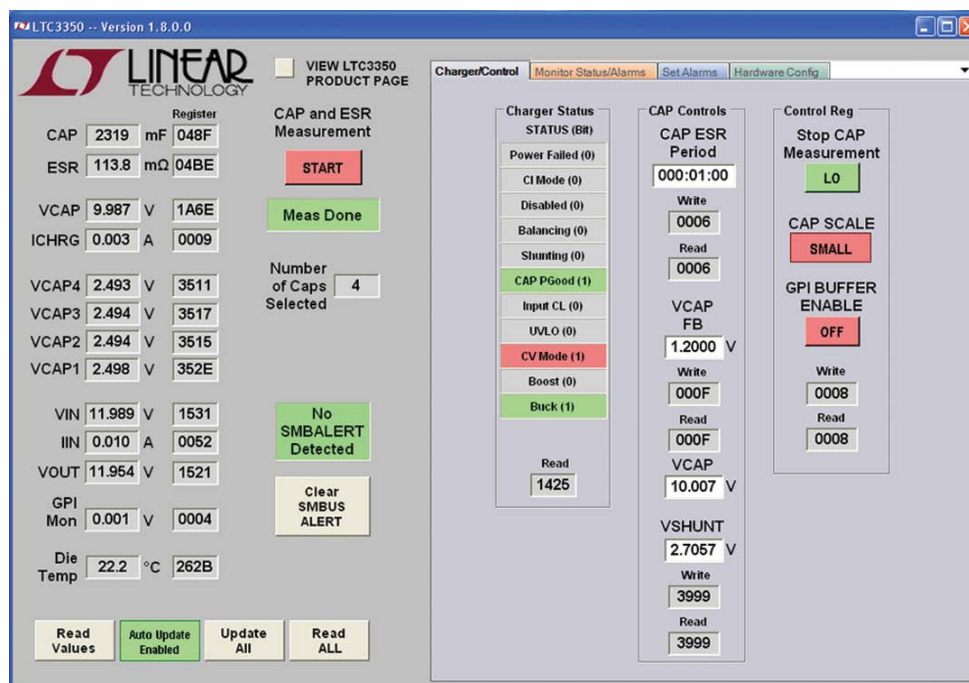

Figure 5. LTC3350 Control Window
6. Start the Linear Technology QuikEval program. This program should automatically detect the presence of the LTC3350 demo board (DC1937B) and activate the appropriate GUI, as seen in Figure 5.
The LTC3350 program provides the ability to measure and monitor the system voltages and currents plus the health of the supercapacitors. It also allows the user to set up alarms to report on specific events such as power fail or cap measurement done. Refer to Figure 5 for an illustration of the LTC3350 control window.
The Charger Control tab contains the indicators and controls for the capacitor charger and monitor plus the GPI buffer enable as shown in Figure 5.